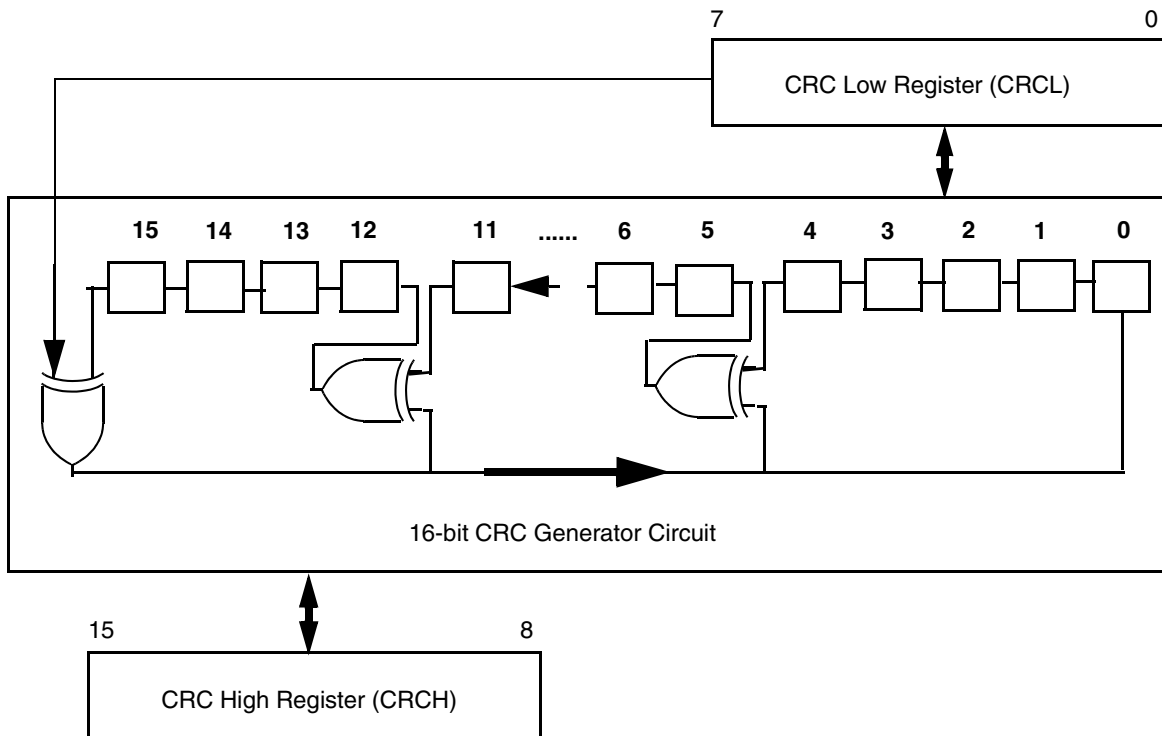

Figure 8-2. Cyclic Redundancy Check (CRC) Module Block Diagram
Figure 8-2 provides a block diagram of the CRC module
- ITU-T V.41 implements the same circuit shown in Figure 8-2, but it recommends a SEED = 0x0000.
- ITU-T T.30 and ITU-T X.25 implement the same circuit shown in Figure 8-2, but they recommend the final CRC result to be negated (one-complement operation). Also, they recommend a SEED = 0xFFFF.